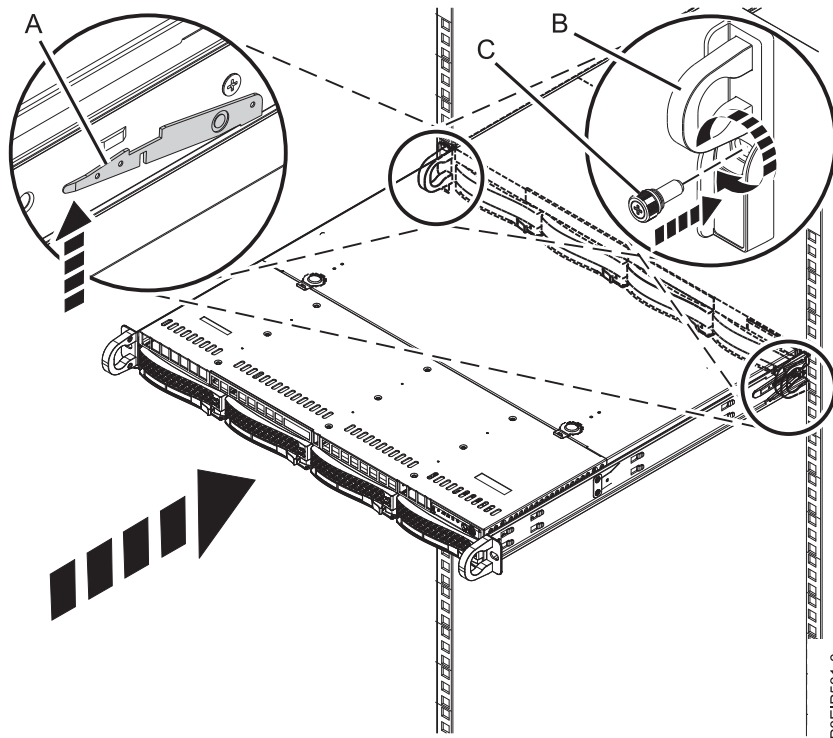

Figure 60. Placing the system into the operating position
5. Release the rail safety latches (A), as shown in Figure 60, then push the system fully into the rack. The safety latches work in opposite directions; the latch on one side moves up while the latch on the other side moves down.